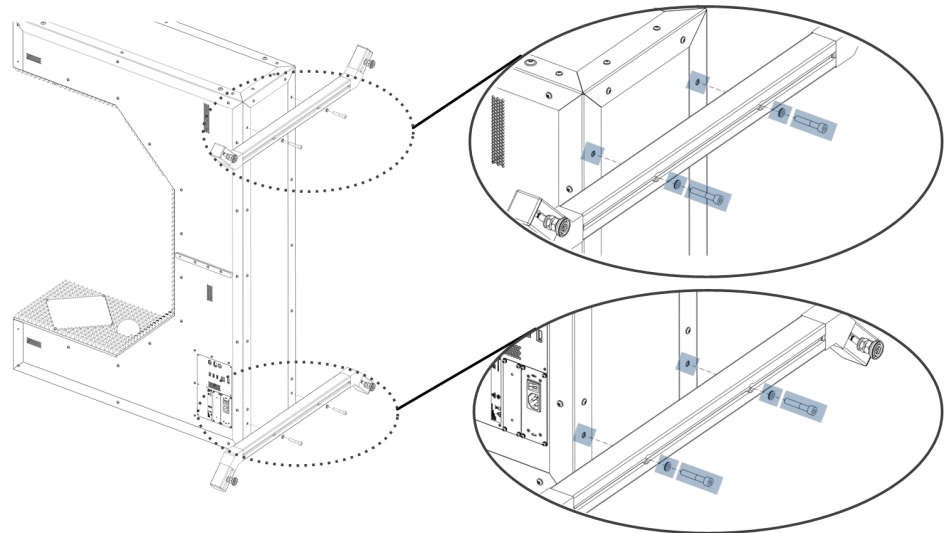

Figure 4-6: Attaching the supporting feet for lying position
- b) Screw the two feet to the mounting holes indicated in Figure 4-6 with an Allen wrench. The screws and wrench are part of the delivery (M8X45). Put the washers between screw heads and feet.